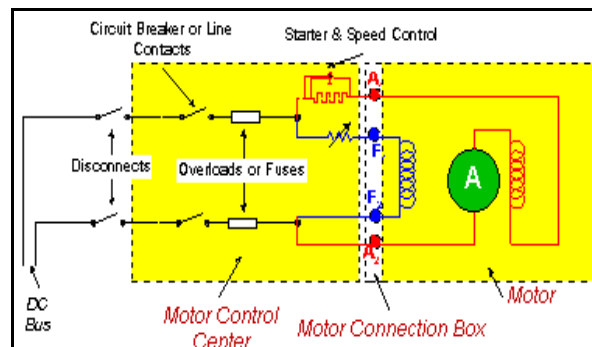

Figure 5-46: DC Asset Circuit Connections
3. Connect the MCE test leads to the circuit, in the same manner each time, as referenced in Table 5-7 and shown in Figure 5-46. This ensures that the test data is trendable/repeatable.